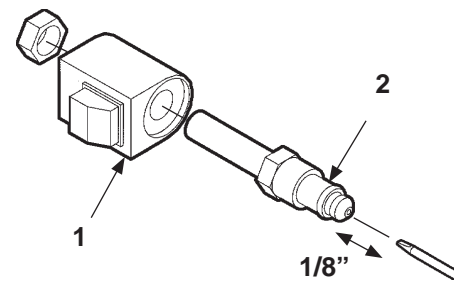

FIG. 49-2
3. Check if solenoid valve is getting power by holding a screwdriver against the top nut of the solenoid. Push control switch to "**LOWER**" position to energize solenoid (**FIG. 49-2**). A good solenoid will attract (magnetically) the screwdriver to the nut and make it difficult to pull the screwdriver away from the nut.
4. Check the valve stem by removing the coil assembly (**Item 1, FIG. 49-2**). With platform supported, unscrew the valve stem (**Item 2, FIG. 49-2**) from the pump. Push on the plunger located inside the valve stem by inserting a small screwdriver blade in the end. If the plunger does not move freely (approximately 1/8"), replace the valve stem.